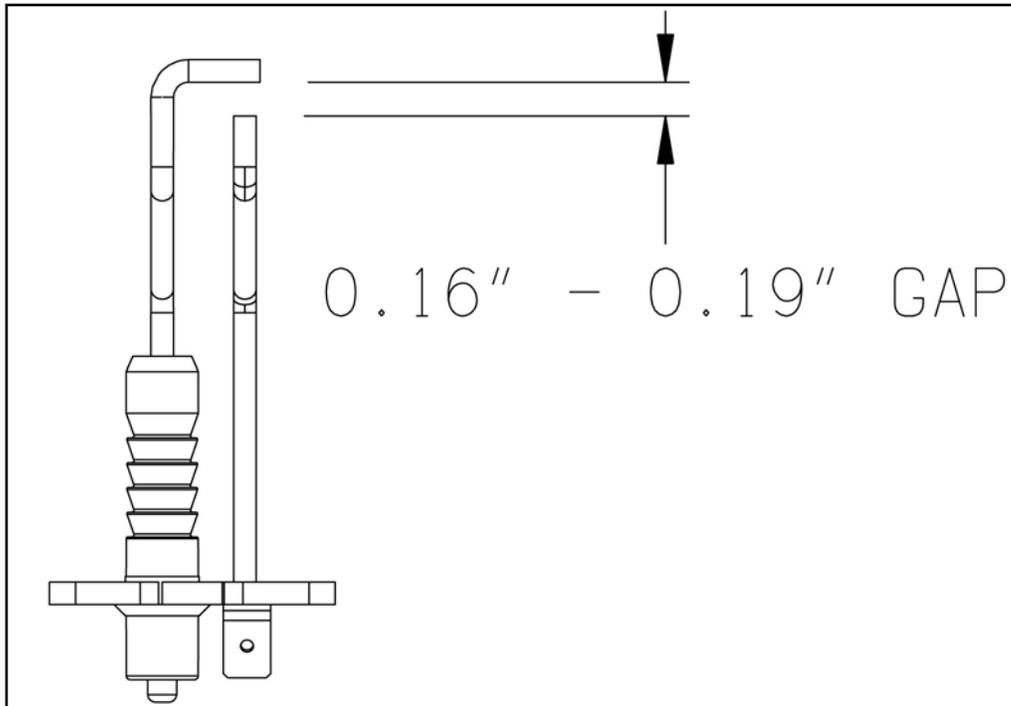

Figure 1.3: Ignition Electrode Gap
- n. **Inspect the ignition electrode and flame rod** for deposits. Clean any found with steel wool. Do not use sand paper or Emory cloth for this cleaning. Inspect the ceramic portion of both of these parts for cracks and replace if any are found. Verify that the ignition electrode gap is within the range shown in Figure 1.3.